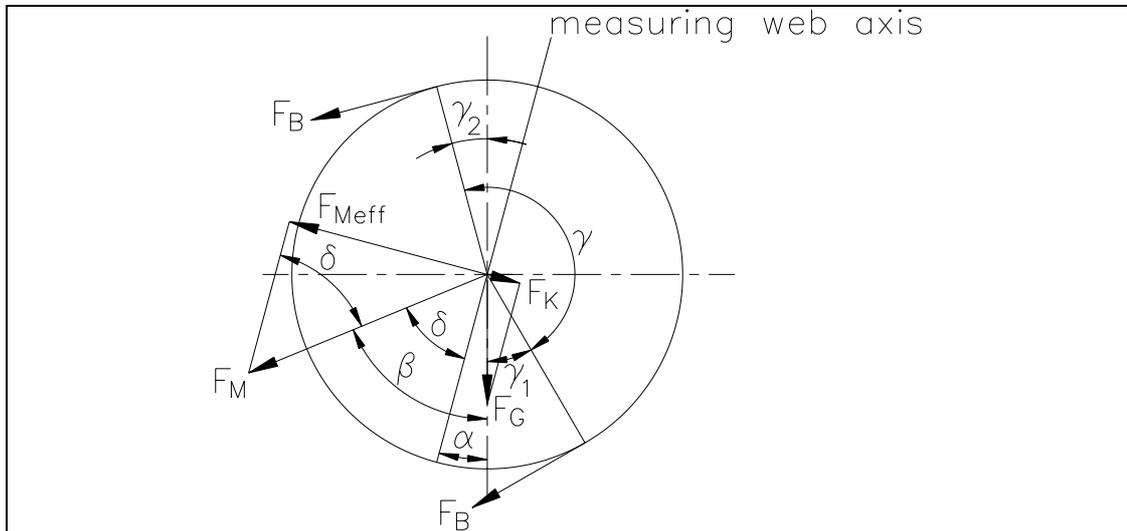

fig. 11: Force vectors in the FMS force measuring bearing
- F_{Calib} applied calibration load [N or lbs] (refer to fig. 11)